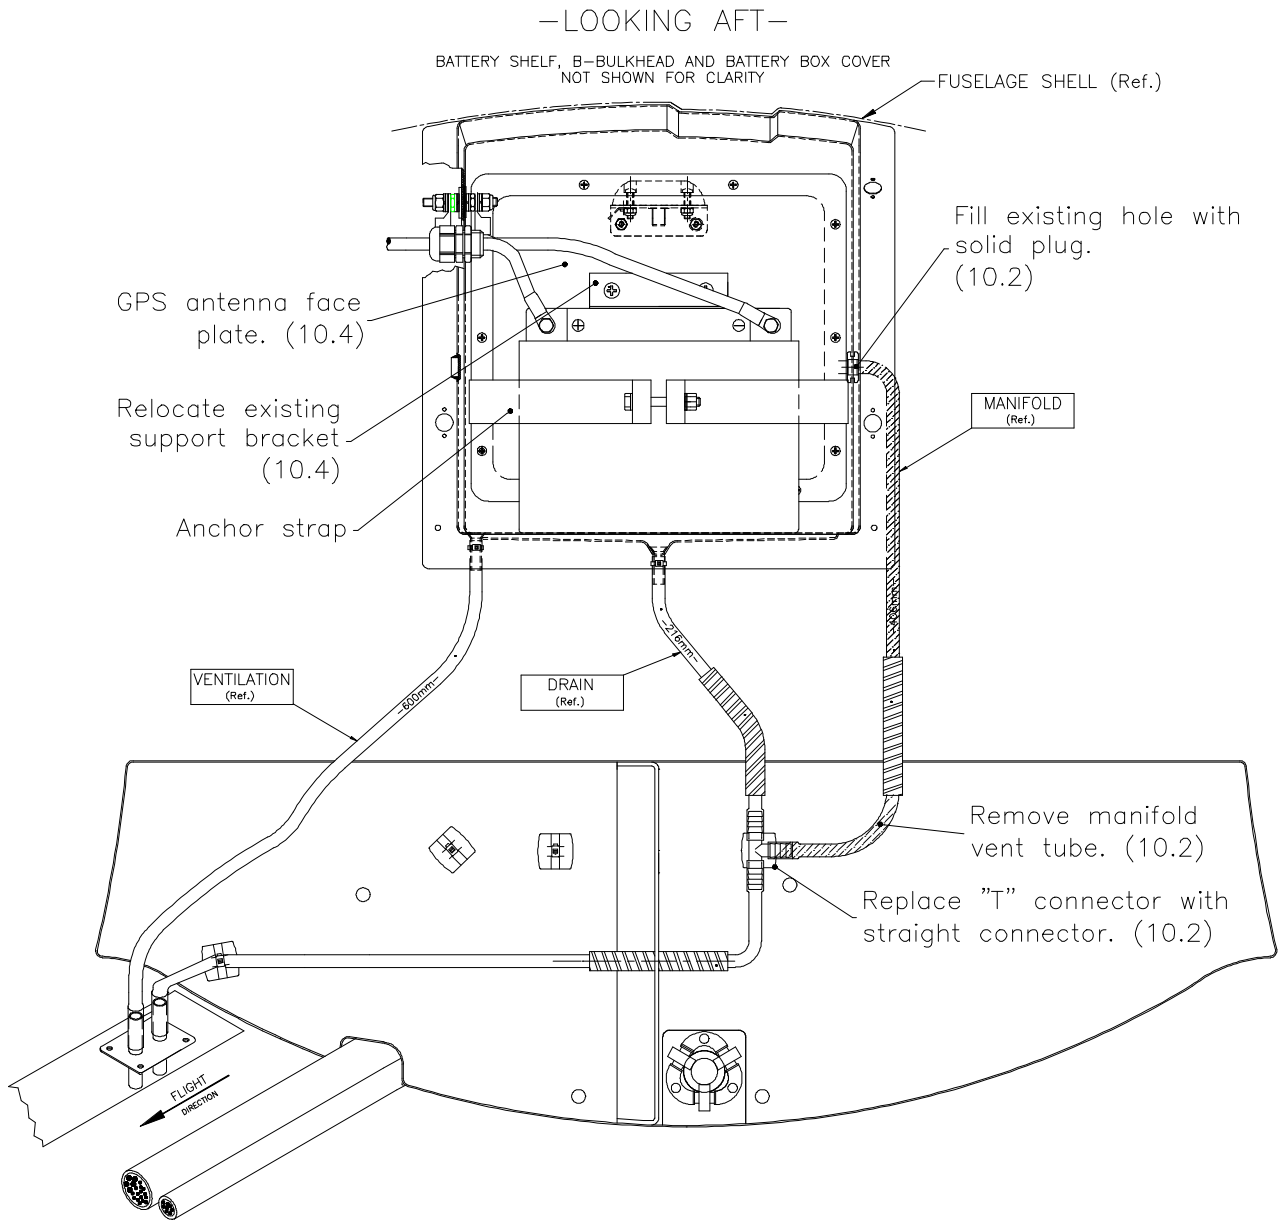

Figure 1
- 10.2 Remove the baggage floor. Remove the battery manifold overboard drain tube and replace the "T" tube connector (ty-wrapped to half-ring bulkhead) with the straight connector (0706-015). Plug hole in battery compartment with plug 245-005 (Reference Figure 1).